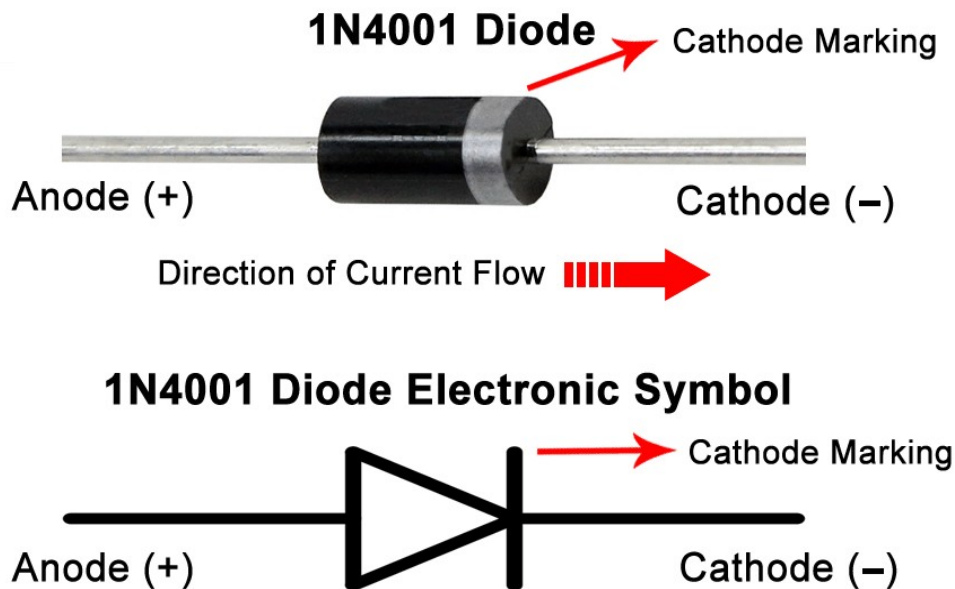

Figure 22: Diode Physical Package and Connections
- f. Show the physical appearance and connections of a diode in Figure 22